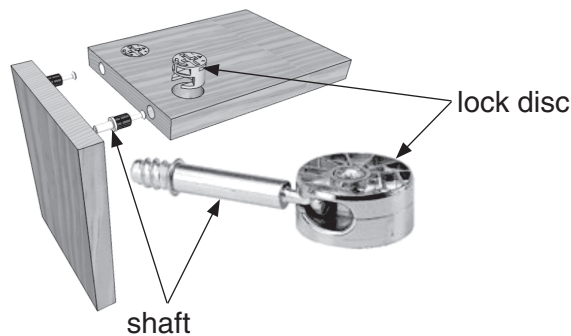

Fig. 6
- 9 Fig. 6 shows a knock-down fitting used to assemble wooden parts.
- (a) Give the correct name for the knock-down fitting shown in Fig. 6.